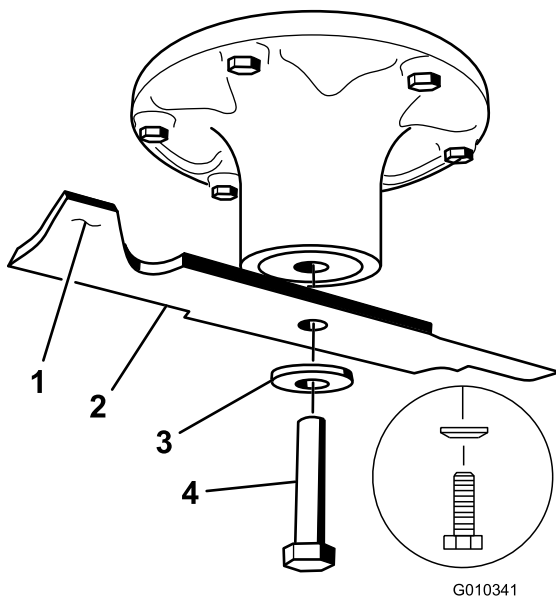
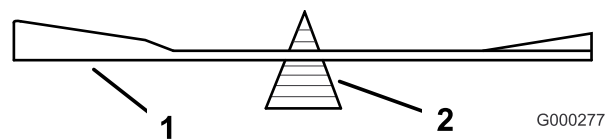

Figure 59
Figure 61
Hold the blade end using a rag or thickly-padded glove. Remove the blade bolt (rotating it counter-clockwise), curved washer, and blade from the spindle shaft (Figure 59).
2. Check the balance of the blade by putting it on a blade balancer (Figure 61). If the blade stays in a horizontal position, the blade is balanced and can be used. If the blade is not balanced, file some metal off the end of the sail area only (Figure 59). Repeat this procedure until the blade is balanced.
1. Install the blade onto the spindle shaft (Figure 59).
2. Install the spring disk and blade bolt (rotating it clockwise). The spring disk cone must be installed toward the bolt head (Figure 59). Torque the blade bolt to 100-110 ft-lb (135-150 N-m).